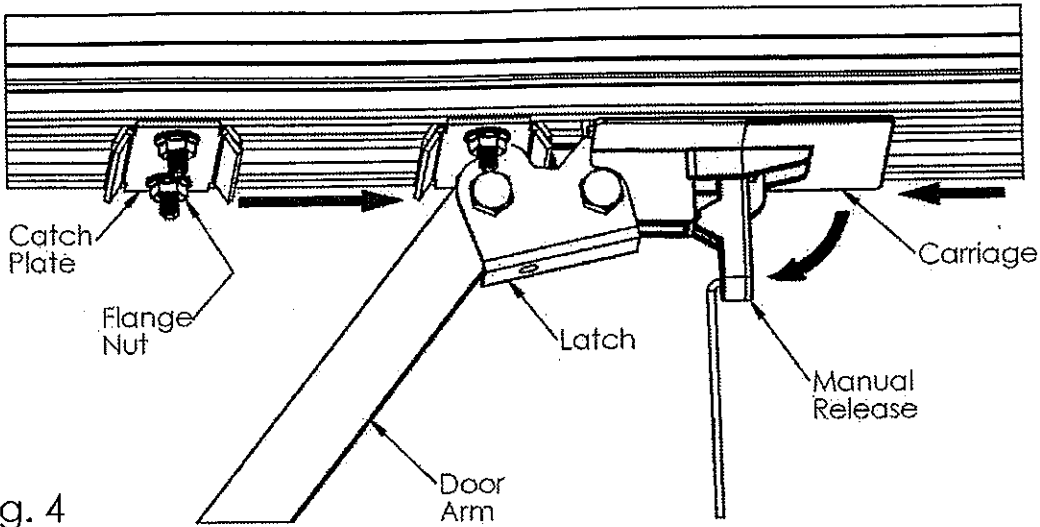

Fig. 4
9. Close the door by pressing the Operate button on the Wall Console. With the door closed, pull the Manual release down. Slide the Catch Plate towards the carriage so that it passes above the Latch and stops against the carriage, as in Fig. 4 on page 10.